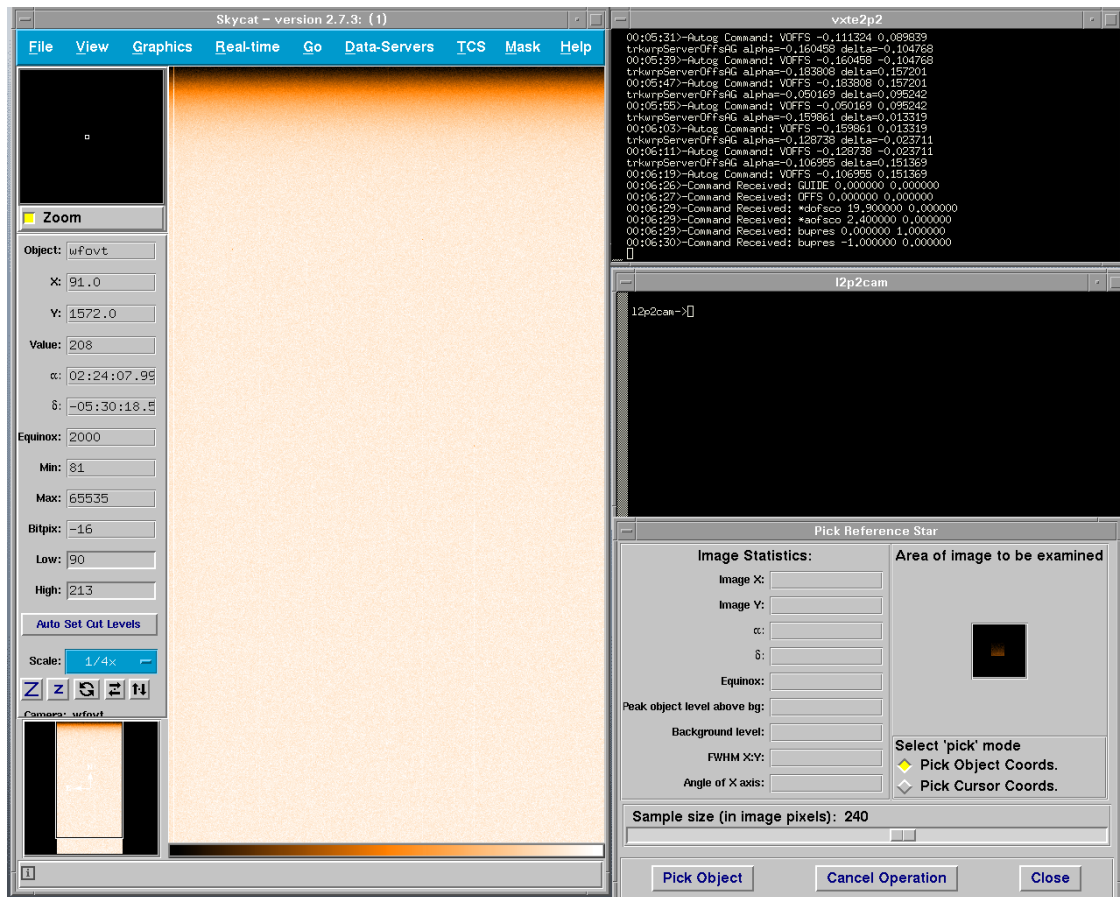

Figure 10.3: The AG field is displayed on the TCS RTD (left) where the reference star can be picked (using lower right window).
**AG.** The buttons of interest are Retrieve field (to probe the AG field, displayed in Fig. 10.3), Box to star (to start the guiding when a guide star has been picked) and Off (to turn off the AG). Tuning of the AG (e.g. integration time) can be done on the Autoguider area of the TCS setup panel (Fig. 10.2).